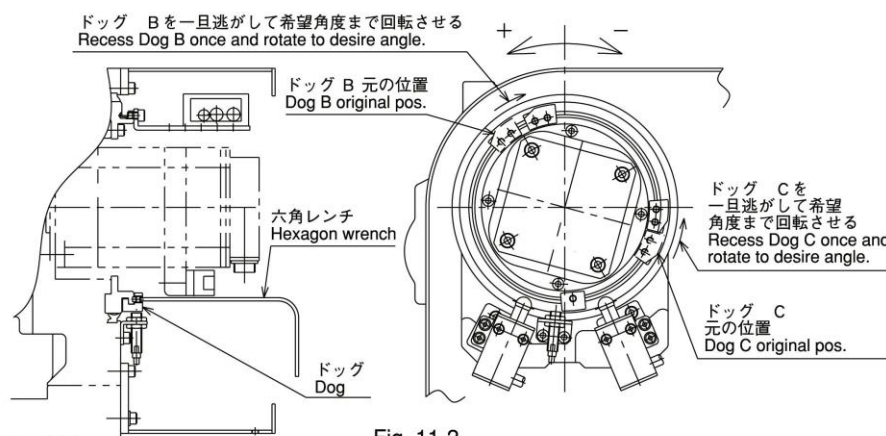

Fig. 11-2
(Fig.11-2 参照)
- 1) When the customer will change position of dog B② according to the shape of workpiece and jig, loosen hexagon socket head set screws which fix the dog and slide the dog B② counterclockwise (CCW) along the groove with the hexagon wrench still inserted in order to recess once. (See Fig.11-2.)
- 3) After rotating the rotary table to the desired tilting angle, insert the hexagon wrench in the dog B② and slide the dog B② in the reverse direction clockwise (CW) before fixing until the over-travel alarm lamp lights.
- 4) After fixing the dog B②, rotate the tilting axis again with the manual pulse generator or the JOG key and check that the tilting axis stops at the desired tilting angle position and alarm lamp lights.
according to the shape of workpiece and jig, loosen hexagon socket head set screws which fix the dog and slide the dog C ③ clockwise (CW) along the groove with the hexagon wrench still inserted in order to recess once. (See Fig.11-2.)
- 3) After rotating the rotary table to the desired tilting angle, insert the hexagon wrench in the dog C ③ and slide the dog C ③ in the reverse direction counterclockwise (CCW) before fixing until the over-travel alarm lamp lights.
- 4) After fixing the dog C ③, rotate the tilting axis again with the manual pulse generator or the JOG key and check that the tilting axis stops at the desired tilting angle position and alarm lamp lights.